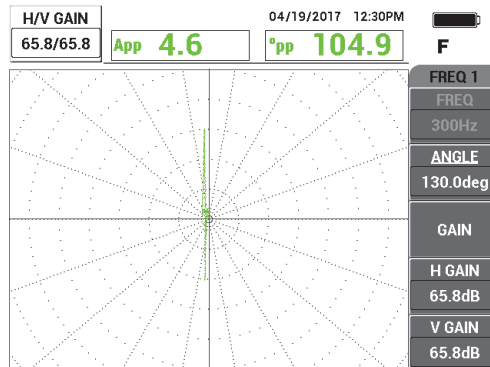

Figure 5-229 Adjusting the gain
4. Press the GAIN key (**dB**), and then increase the gain until the hole signal reaches about 6 vertical divisions in height (see Figure 5-229 on page 290). If necessary, adjust the ANGLE after you have increased the gain.